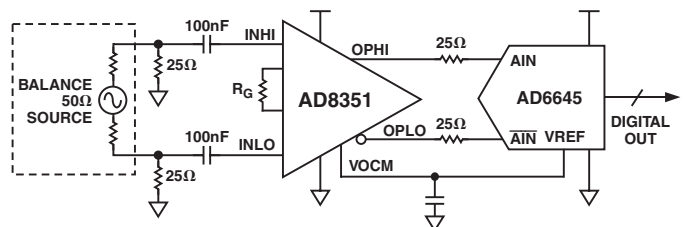

Figure 7. ADC Driving Application Using Differential Input
The circuit in Figure 7 represents a simplified front end of the AD8351 driving the AD6645, which is a 14-bit, 105 MSPS A/D converter. For optimum performance, the AD6645 and the AD8351 are driven differentially. The resistors R1 and R2 present a 50 Ω differential input impedance to the source with R3 and R4 providing isolation from the A/D input. The gain setting resistor for the AD8351 is R_G . The AD6645 presents a 1 k Ω differential load to the AD8351 and requires a 2.2 V p-p differential signal between AIN and AIN for a full-scale output. This AD8351 circuit then provides the gain, isolation, and source matching for the AD6645. The AD8351 also provides a balanced input, not provided by the balun, to the AD6645, which is essential for second-order cancellation. The signal generator is bipolar, centered around ground. Connecting the VOVM pin (10) of the AD8351 to the VREF pin of the AD6645 sets the common-mode output voltage of the AD8351 at 2.4 V. This voltage is bypassed with a 0.1 μ F capacitor. Increasing the gain of the AD8351 will increase the system noise and thus decrease the SNR but will not significantly affect the distortion. The circuit in Figure 7 can provide SFDR performance of better than -90 dBc with a 10 MHz input and -80 dBc with a 70 MHz input at a gain of 10 dB.